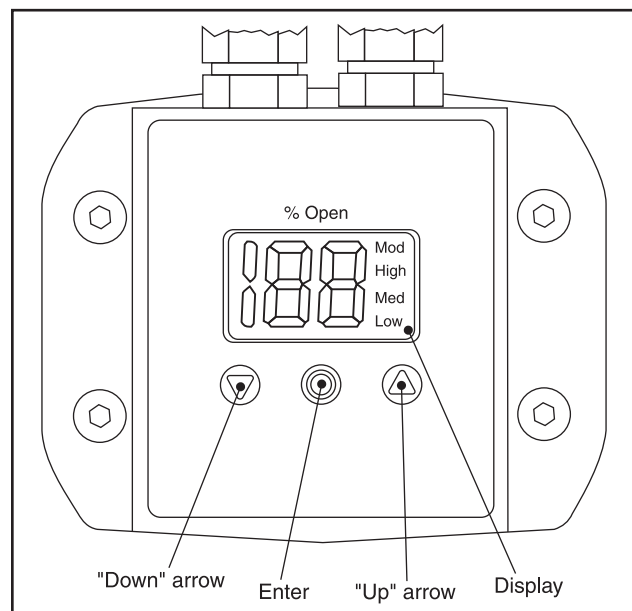

Figure 19
The setting of parameters is managed by means of the integrated ICAD MMI (Figures 19 and 20) and consists of:
- "Down" arrow push button (Figure 19)
- "Up" arrow push button (Figure 19)
- Enter push button (Figure 19)
- To exit from the Parameter list and return to the display of Opening Degree (OD), keep the push button activated for 2 seconds.
- Display (Figure 19)
- Displays the function status by means of text (Figure 19).
If an alarm has been detected the ICAD display (Figure 19) will alternate between showing Actual alarm and present Opening Degree.
5. When the display on ICAD (Figure 19) is alternating between showing: **CA** and **A1** the factory resetting is complete.